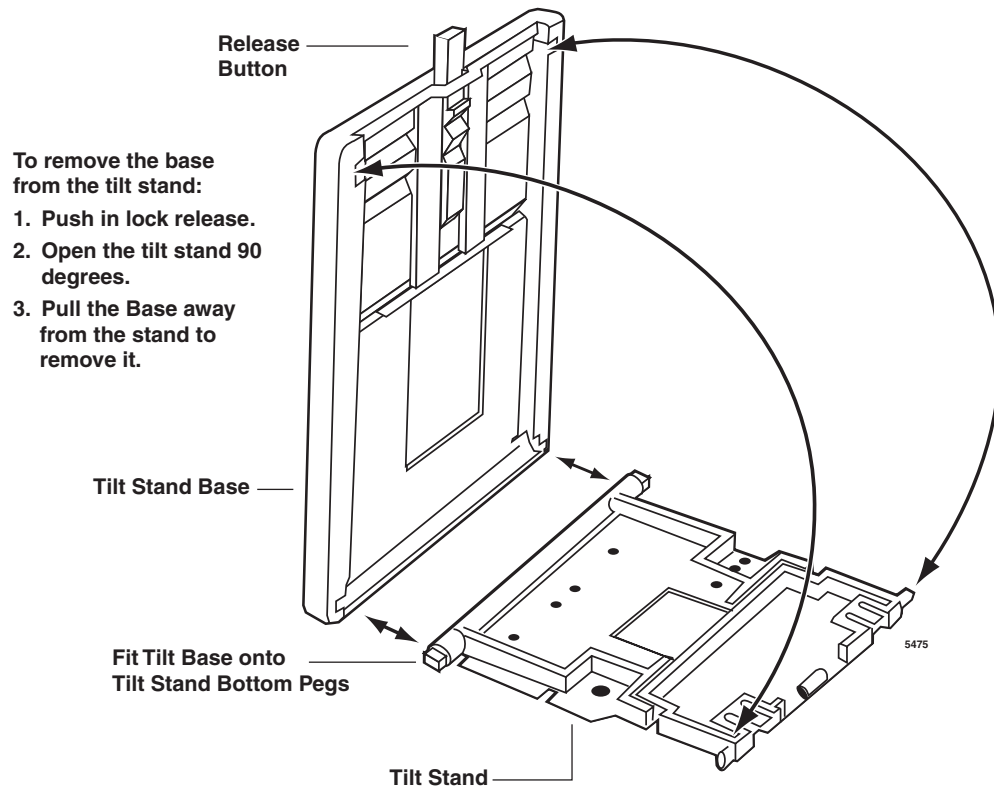

Figure 11-21 Release Adjustment Button
3. Remove Tilt Stand from Tilt Stand Base (see Figure 11-21).
6. Reinstall the Tilt Stand Base: Fit the Tilt Stand Base over the Tilt Stand so that the “bottom pegs” fit into the holder. Adjust Tilt Stand so that the “top pegs” fit into the top Tilt Stand Base holes (see Figure 11-21). Do this to both stands.